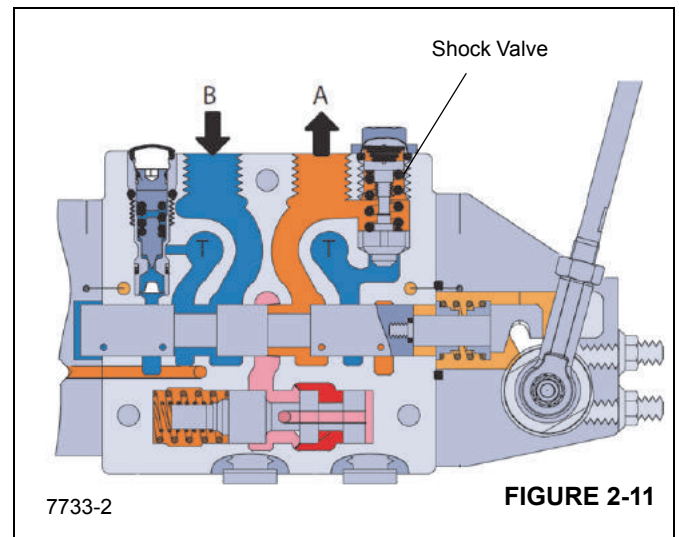

FIGURE 2-11
- b. For the Swing function, reference (Figure 2-11) of the generic valve section cutaway. There are shock valves on each side of the valve section located adjacent to each workport (vertical).
- The swing setting should be set by the load sense relief valve (LSRV) for each direction as it is adjustable up to the shock valve setting mentioned above. These LSRV's are located under the rounded black plastic plugs located on each side of the section adjacent to the shock valves as shown in (Figure 2-11) and (Figure 2-12).